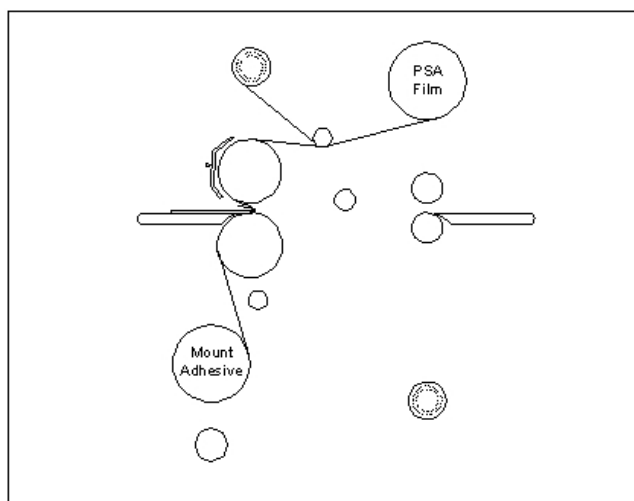

Fig 27
9. Pivot the table back to its feeding position while ensuring the threading card is on top of the feed table (Figure 27).